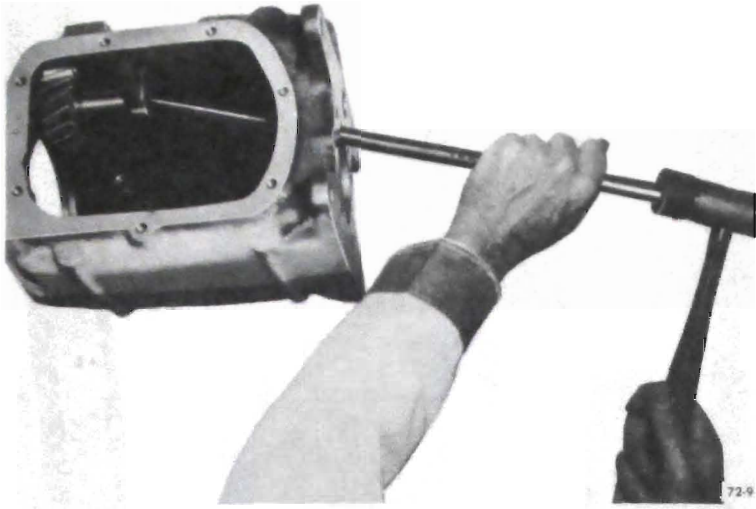

Figure 72-7 - Removing Reverse Idler Shaft
12. Use a long brass drift and drive reverse idler shaft and woodruff key through rear of case. See Figure 72-7.